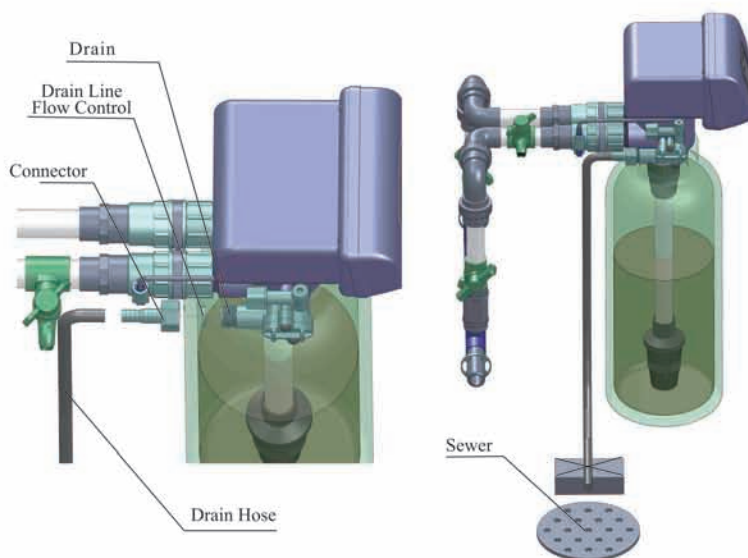

Figure1-4
- If the valve belongs to time clock type, there are no step ② and ③.
⑤ Install drain pipeline
- As the Figure 1-4 shows, slide the drain hose connector into drain outlet.
- Locate the drain hose well as the Figure1-4 shows.
- Be sure not connect drain with sewer directly, and leave a certain space between them, avoid wastewater being absorbing to the water treatment equipment, such as showed in the Figure1-4.
⑥ Connect brine tube